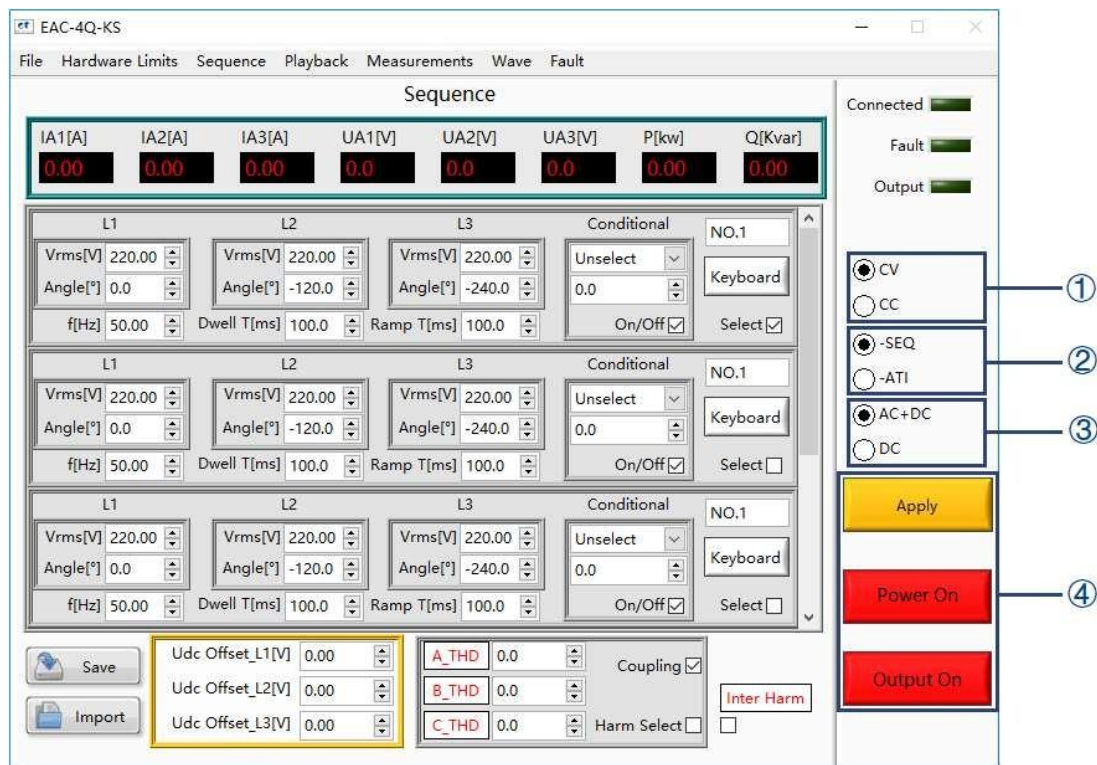

Figure 5-2 Sequence Mode and input/output control
①	Connect	A few seconds after the power supply is initialized, the TFT-Touch panel displayer works, the green light is always on when the software and the equipment are connected normally. If the connection fails, please check whether the AC source is normally powered, the communication cable is connected normally, or the IP address of computer is 192.168.1.2.
②	Fault	The red light indicates the equipment automatically stops working when a fault occurs during operation. If the equipment runs in normal, the light is dark green.
③	Output	When equipment is operating normally and output AC/DC, the green light is always on. When the equipment has no output, the light is dark green.
On the right side of the sequence mode Panel, the user can select the power supply operating mode, parameter input mode and output mode according to the test requirements (Figure 5-2①②③).
There are some important controls on the sequence panel (Figure 5-2③). Click "Apply" → "Start" → "Power On" → "Start" → "Output On", the power supply is on, click "Output On" → "Stop" → "Power On" → "Stop", the power supply is off.